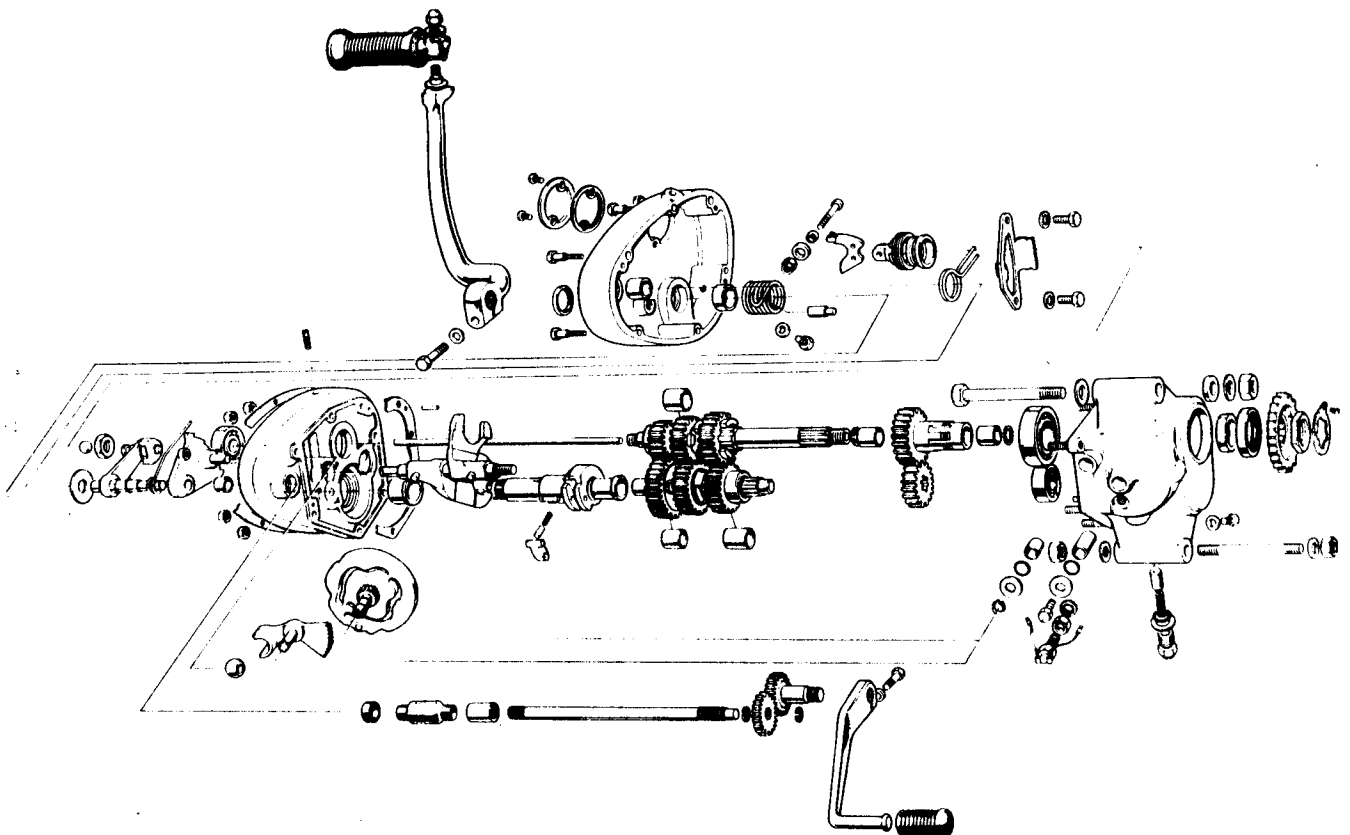

Fig. D4 Gearbox Arrangement
- 14 Assemble the mainshaft 3rd gear with selector fork to the mainshaft (selector fork groove side outwards) and engage the pin with the inboard cam track (see Fig. D4).